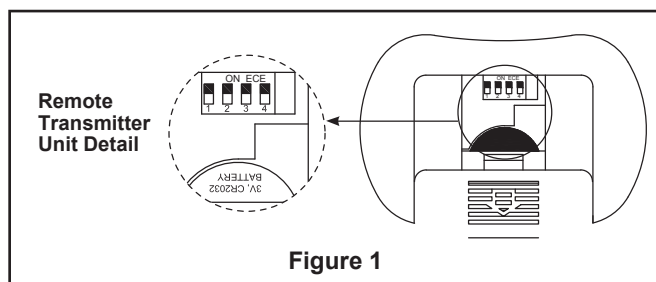

Figure 1
• **Transmitter:** remove battery cover. Press firmly below arrow and slide battery cover off. Slide code switches to your choice of up or down position. Factory setting is all up. Do not use this position. With a small screwdriver or ball point pen slide firmly up or down (Figure 1). Replace battery cover on the transmitter.
It is recommended that each fan and the motor have $\frac{3}{4}$ " plywood backing secured to a structural member for adequate support (Figure 1). A 120 VAC electrical feed, centered under the motor unit and wired to a 3 speed control (supplied) is required. The motor unit will not operate more than 4 pulley/blade assemblies.